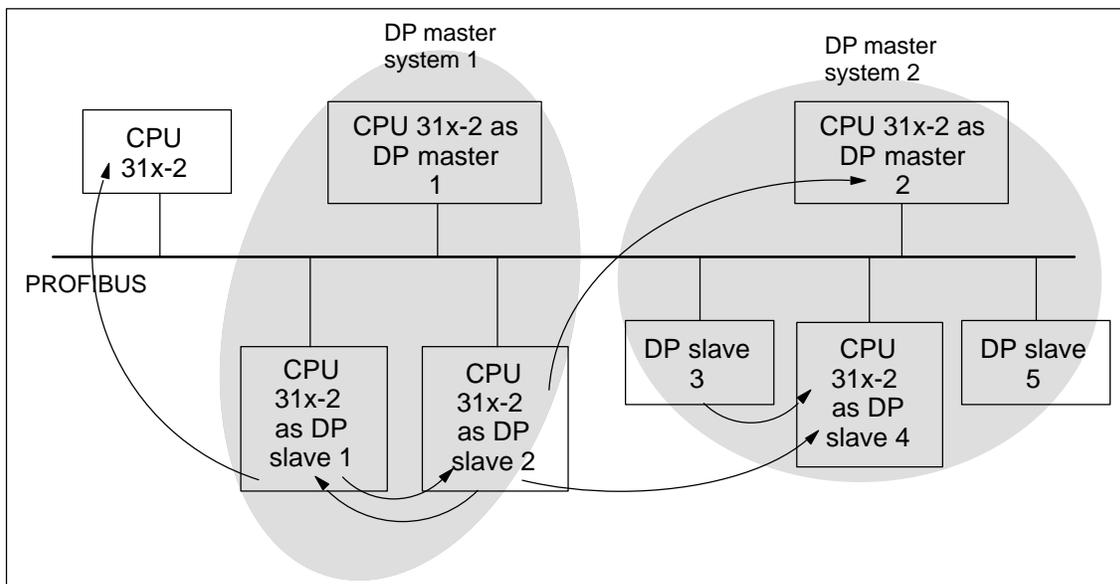

Figure 9-14 Direct Communication with CPU 31x-2
- Receiver as DP slave or DP master or as CPU not included in a master system (see Figure 9-14).
Figure 9-14 gives you an example of the direct communication relationships you can configure. In the figure all the DP masters and DP slaves are CPU 31x-2s. Note that other DP slaves (ET 200M, ET 200X, ET 200S) can only be senders.